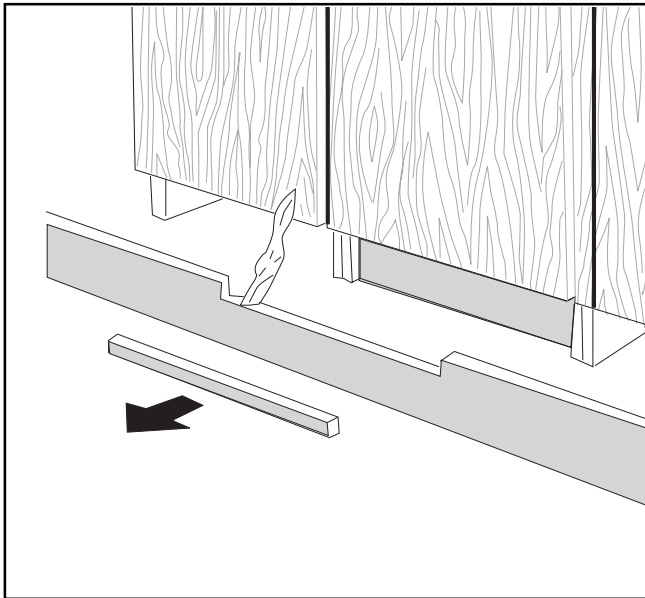

Fig.7
- 3、 If so, rest the bottom edge of the panel on the base moulding and mark the part to be cut. Leave at least 3mm of the play between the panel and the base moulding to allow for the door to rotate freely (Fig.7).
- 4、 Remove the base moulding and trim it as needed,protecting the surface that has been cut with a paint or similar wood finish (Fig.7)